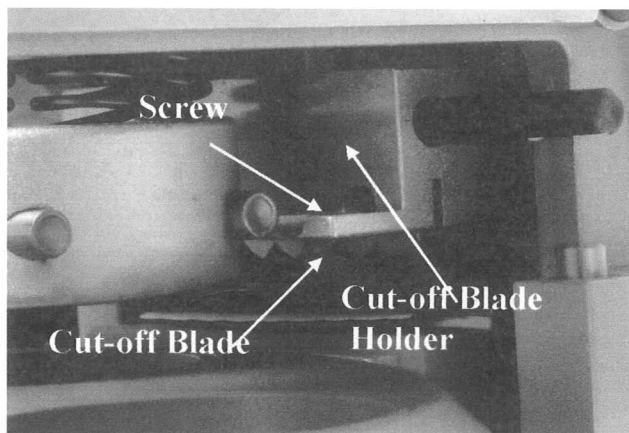

Fig. 20 – Removal of Cut-Off Knife
3. Remove one (1) screw from each side Of the cut-off blade holder (see Fig. 20).
4. Carefully slide cut-off blade out of holder.(see Fig. 20)